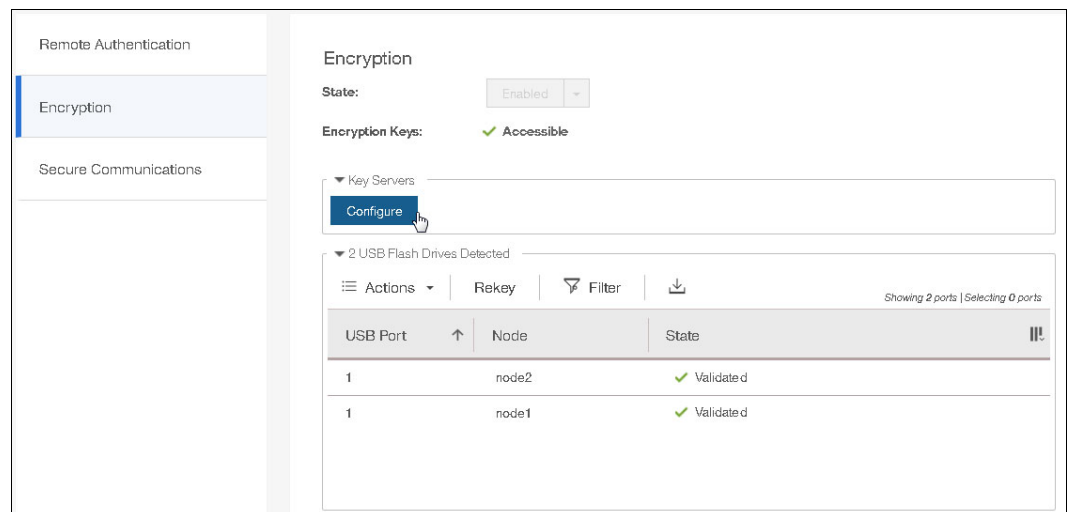

Figure 7-45 Key Servers configuration entry page
9. In the IBM FlashSystem 900 GUI, click **Settings** → **Security** → **Encryption**. Expand the Key Servers and USB Flash Drives twistie to show encryption configuration information. As shown in Figure 7-45, encryption is configured by using two USB flash drives. In the Key Servers section, click **Configure**.